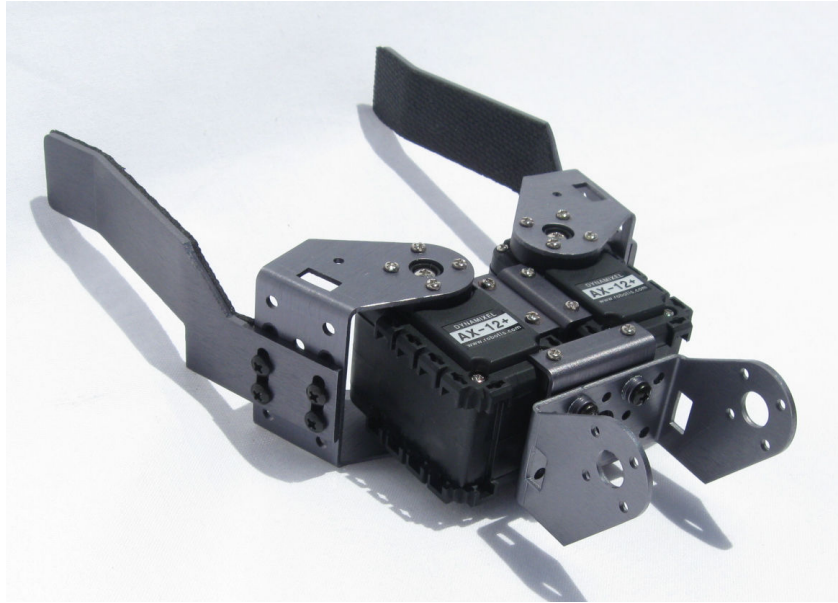

Figure 12
12. Using (4) ¼” screws, install the AX- 45 bracket to the AX-12 rear bracket as shown in figure 12.